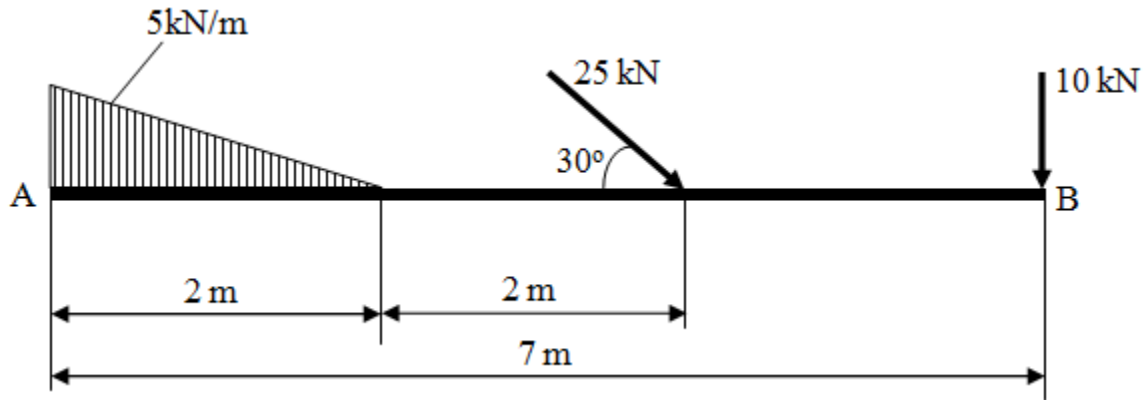

Figure Q2 (c),
c) Draw and determine shear force and bending moment diagrams for the beam shown in Figure Q2 (c),